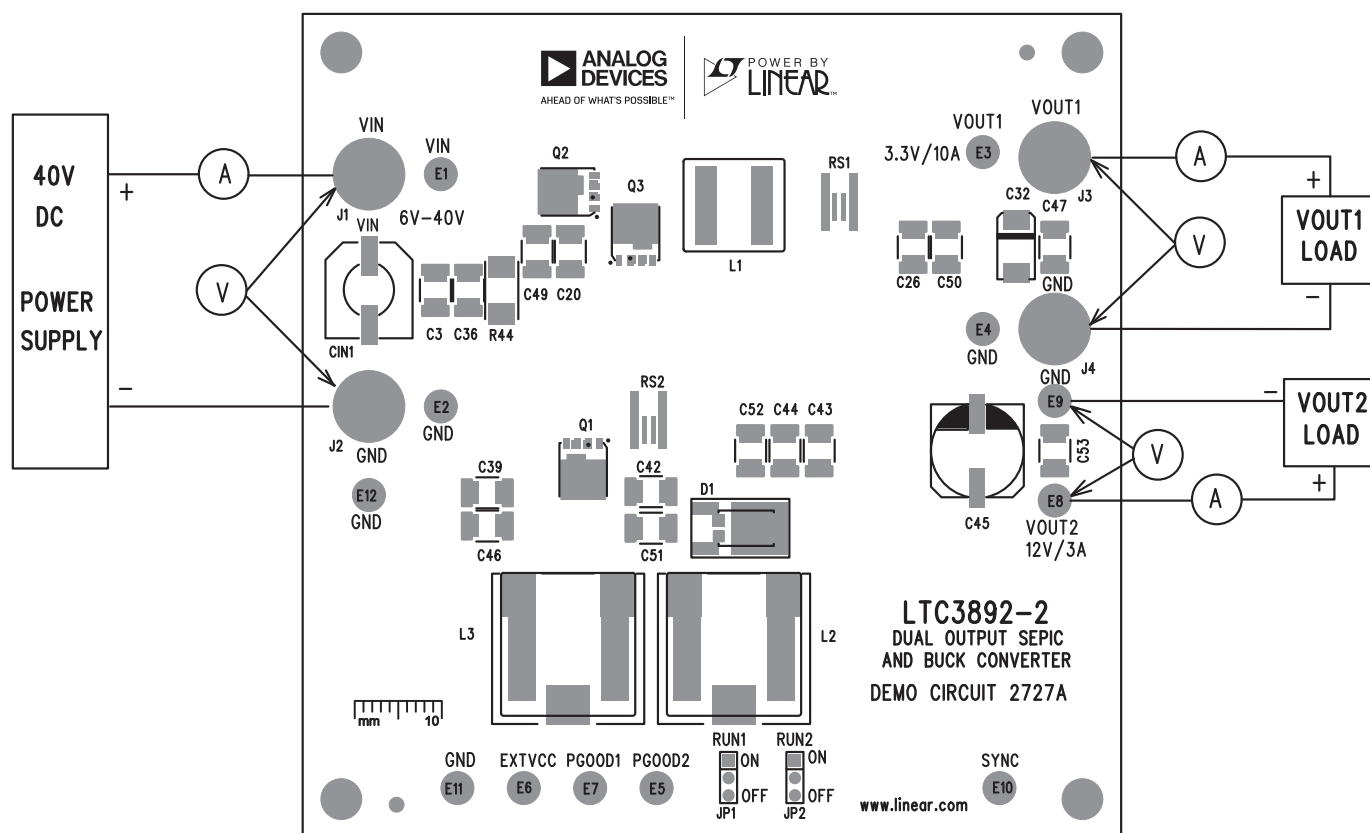

Figure 1. Proper Measurement Equipment Setup
Demonstration circuit 2727A is easy to set up to evaluate the performance of the LTC3892-2. For proper measurement equipment configuration, set up the circuit according to the diagram in Figure 1. Before proceeding to test, insert shunts into JP1, JP2 (RUN1, 2) into OFF position, which connects the RUN pins to ground (GND), and thus shuts down the outputs.
1. With the DC2727A set up according to the proper measurement and equipment in Figure 1, apply 14V at V_{IN} . Measure V_{OUT1} and V_{OUT2} , both should read 0V.